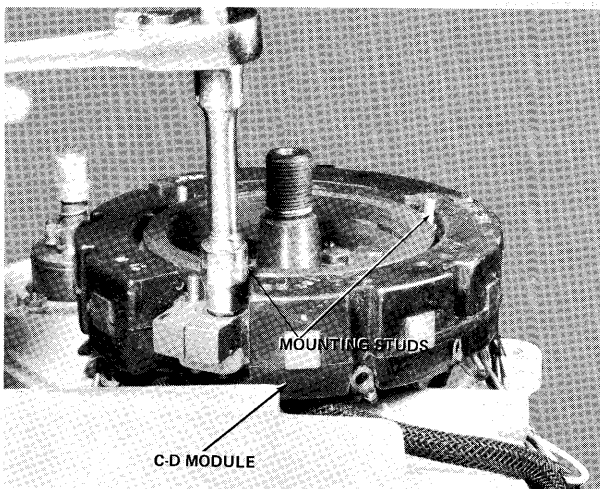

Figure 13 - Removing C-D Module
- D. Remove five (5) screws, lead wires and lock-washers from C-D module.
- E. Remove two (2) studs securing C-D module to bearing cage and remove C-D module from engine as shown in figure 13.